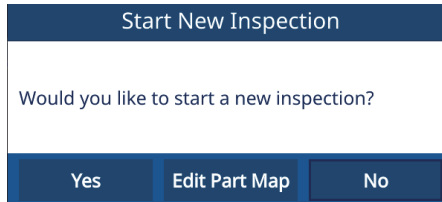

Figure 3-3 Start New Inspection dialog box
3. Tap **Yes** in the **Start New Inspection** dialog box (Figure 3-3 on page 41).